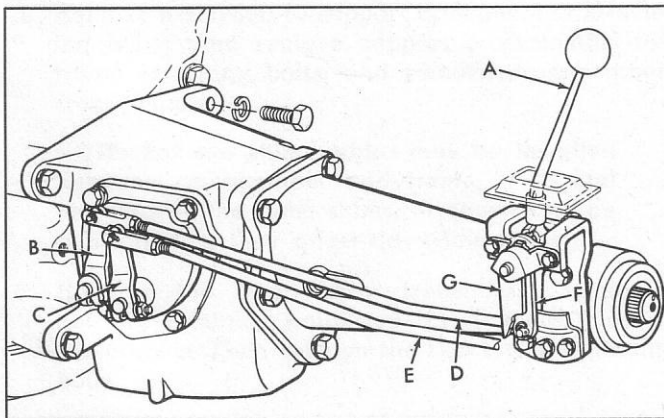

Fig. 1—Shift Linkage Adjustment
1. Set levers (A), (B), and (C) (fig. 1) in neutral detent position.
2. Disconnect speedometer cable from speedometer driven gear fitting and disconnect rods (D) and (E) (fig. 1) at transmission shift shafts (levers (B) and (C)).